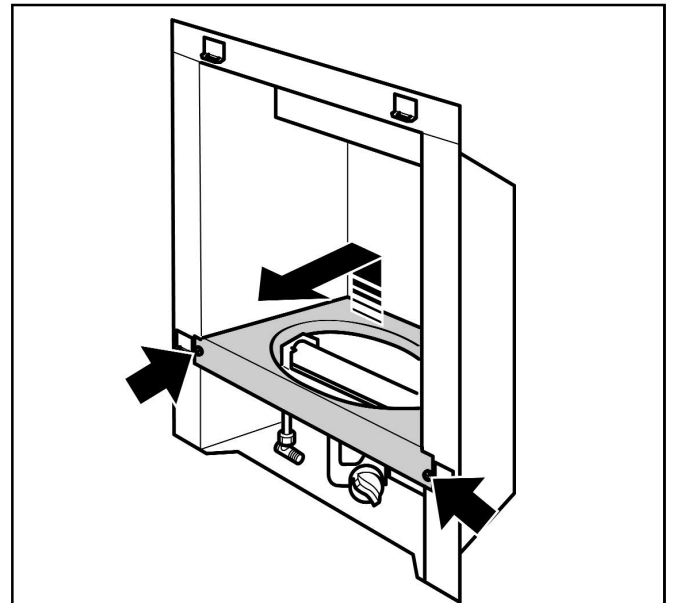

Figure 35. Removal of burner module
6. Remove the two screws to the side of the burner cover (See figure 35)
7. Detach the burner cover by lifting clear of the burner module (See figure 35). Place the burner cover in a safe place away from the work area.